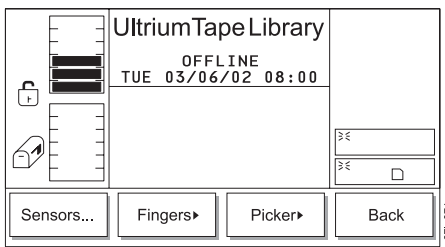

Figure 4-135. Diags Submenu
3. Press the button below the **Diags** softkey. The Diags Submenu displays (see Figure 4-135).